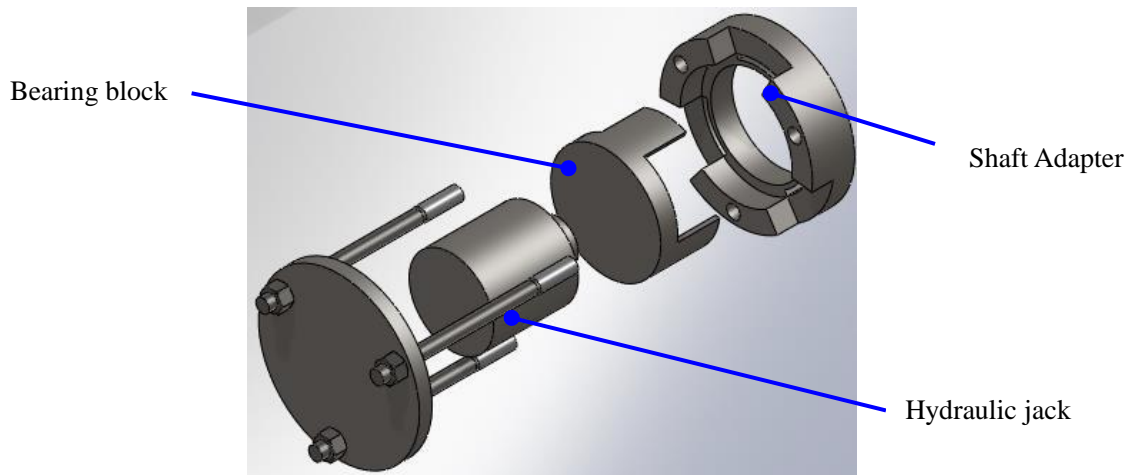

Figure 64: Sheave repress apparatus
4. To ensure the sheave is fully seated, attach the sheave press apparatus as shown in Figure 64 after sliding the Special Steel Cover onto the shaft. Use a hydraulic jack to apply 45 Mpa (15T) pressure to the sheave. Then remove the pressing apparatus.